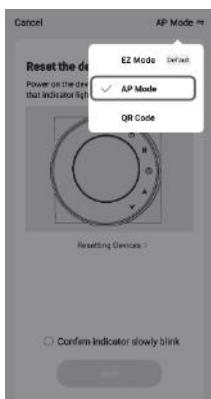

Fig.9
- When the thermostat is off, press and hold the “∇” until the thermostat screen flashes slowly and the “📶” icon is displayed (if the “📶” icon appears, continue to press the “∇” until the thermostat screen flashes slowly and displays the “📶” icon), and then operate according to the following figure (Fig.9-Fig.14 + Fig. 8)